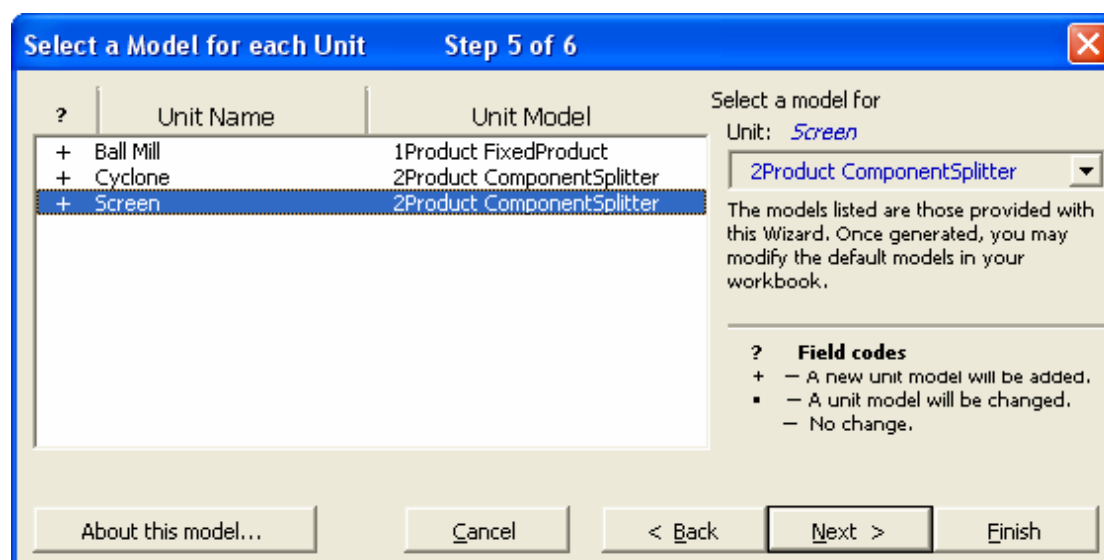

Figure 14:1_D Vertical Step 5
3.8 Select the different models for the unit operations. Click on the unit name then select the model from the drop down list on the right hand side. Make sure that the same models are selected for the different units as those in figure 14 below.